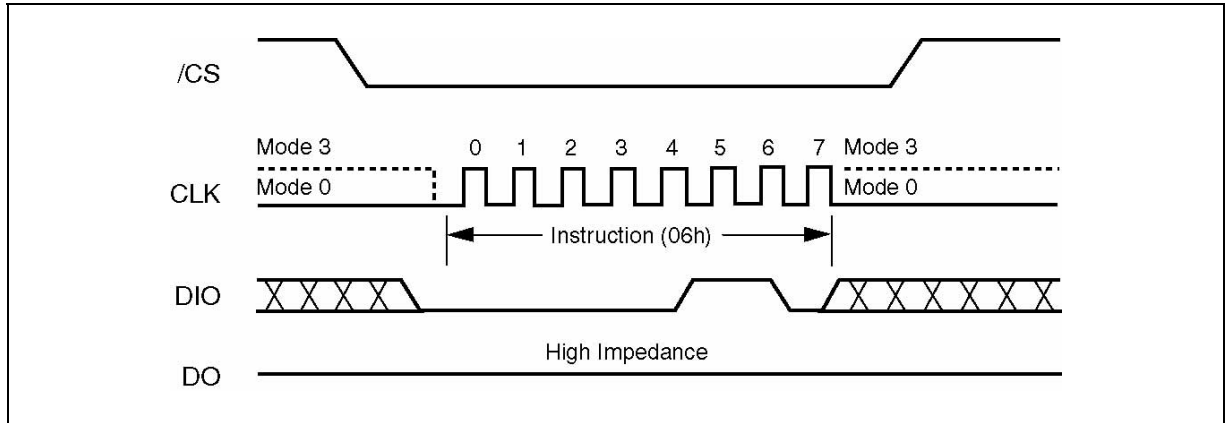

Figure 4. Write Enable Instruction Sequence Diagram
Instructions vary in length from a single byte to several bytes and may be followed by address bytes, data bytes, dummy bytes (don't care), and in some cases, a combination. Instructions are completed with the rising edge of edge /CS. Clock relative timing diagrams for each instruction are included in figures 4 through 19. All read instructions can be completed after any clocked bit. However, all instructions that Write, Program or Erase must complete on a byte boundary (CS driven high after a full 8-bits have been clocked) otherwise the instruction will be terminated. This feature further protects the device from inadvertent writes. Additionally, while the memory is being programmed or erased, or when the Status Register is being written, all instructions except for Read Status Register will be ignored until the program or erase cycle has completed.
The Write Enable instruction (Figure 4) sets the Write Enable Latch (WEL) bit in the Status Register to a 1. The WEL bit must be set prior to every Page Program, Sector Erase, Block Erase, Chip Erase and Write Status Register instruction. The Write Enable instruction is entered by driving /CS low, shifting the instruction code “06h” into the Data Input (DI) pin on the rising edge of CLK, and then driving /CS high.